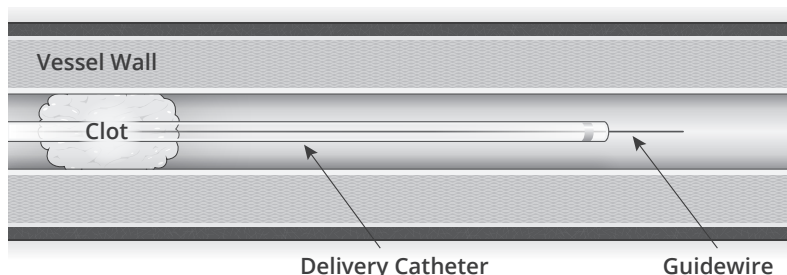

Figure 2
1. Unpackage the device tray from the pouch and retrieve the delivery catheter from its protective hoop within the tray, taking care not to kink or damage the component. Soak the delivery catheter prior to use in heparinized saline to lubricate the surface. Keep the surface of the delivery catheter wet during use. Once the clot has been crossed with a guidewire and using a guide sheath (7 Fr minimum) for introduction of the system, flush the delivery catheter. Then, back-load the delivery catheter over the guidewire until the distal tip is past the clot, or at the most distal site that is within the intended vessel diameter (see Figure 2).